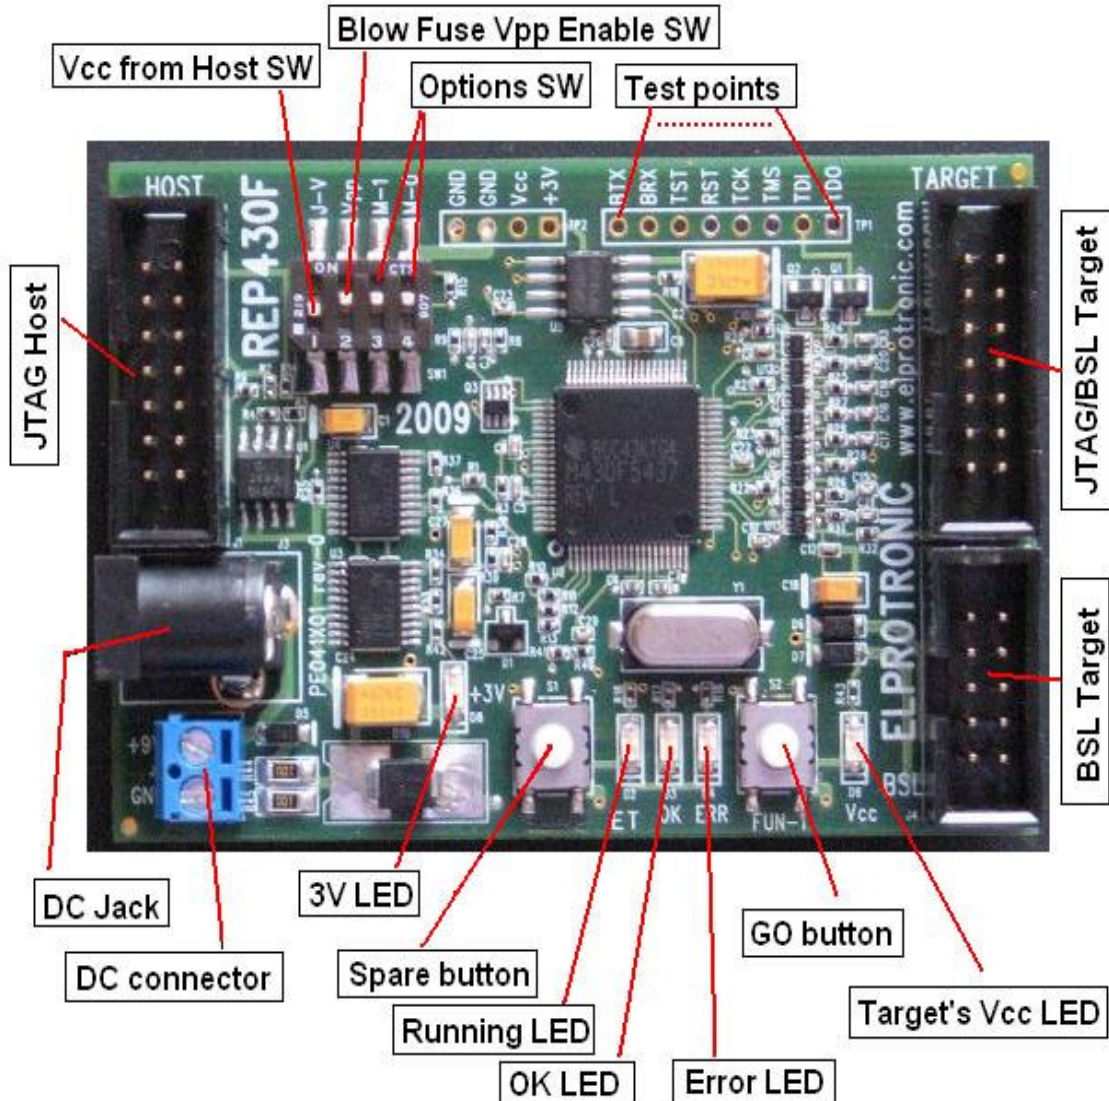

Figure 4.1
The Figure 4.1 shows the major parts of the **REP430F** replicator. Detailed schematic and PCB layout are presented on Figures 4-3, 4-4, 4-5, 4-6, 4-7 and 4-8. BOM is presented in the table on page 19.
- \* Terminal block power supply. Ground should be connected to the GND terminal on the power connector (see Figure 4.1). A 4-10V supply can be connected to the “9V” terminal.
- \* Power supply from the Host JTAG connector. Ground should be connected to pin 9 and the Vcc (2.5 to 3.6V) taken directly from the Host JTAG adapter connected to pin-2 of the Target’s connector. Switch “**Vcc from Host SW**” should be on “**ON**” position (see figure 4.1)